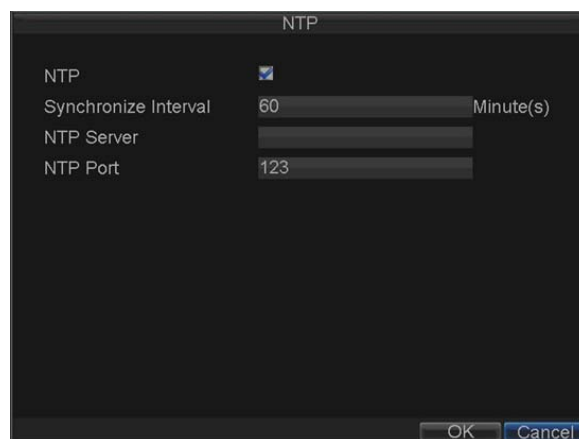

Figure 8. NTP Settings Menu
3. Click the **Set** button next to **NTP** to enter the NTP Settings menu, as shown in Figure 8.